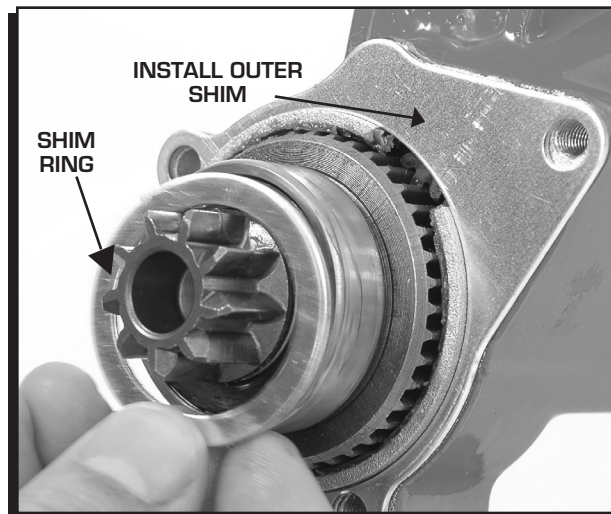

Figure 3 Installing the Pinion Shim Spacers.
- **If there is not enough clearance**, you will need to install the supplied shim kit by removing the mounting block (Figure 3). If the pinion gear engages too far onto the ring gear, there will be issues with disengagement. MSD supplies a shim ring to move the pinion 0.060". Remove the mounting block and place the small shim ring in the bearing bore and install the outer shim on the support housing. Reinstall the mounting block. This will move the pinion gear into the starter approximately 0.060".